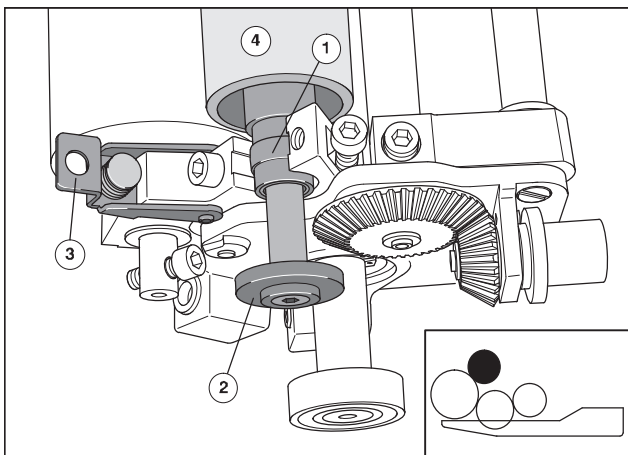

Fig. 46 Inserting the dampening distributor
2. Laterally slide the bearing bushes (Fig. 46/1) on the shaft of the dampening distributor corresponding to the bearing shells. The driver plate of the dampening distributor for the lateral distribution (Fig. 46/2) lies on O.S.
4. Swivel the bearing caps (Fig. 46/3) over the bearing bushes (Fig. 46/1).
5. Screw the bearing cap (Fig. 46/3) to the bearing with the Allen screw.